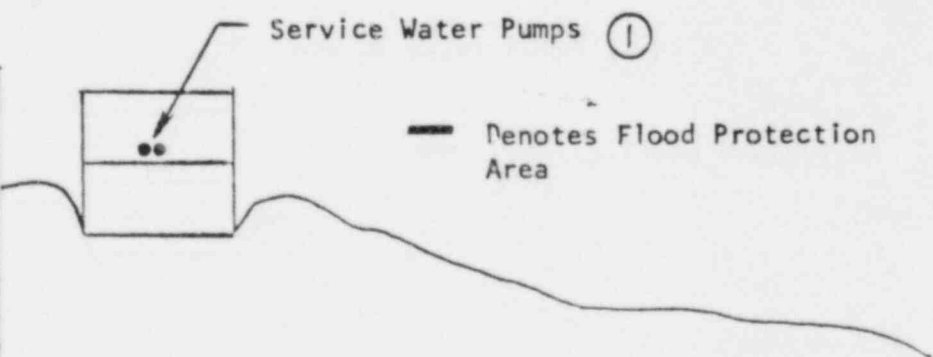

Figure 1
- 4.4 When forecasts indicate a level of 21.0 feet (MSL) will be reached or when the river reaches elevation 16.0 feet (MSL), dispatch personnel to install the following flood protection barriers as detailed in Figure 1, Attachment "A" to this procedure.